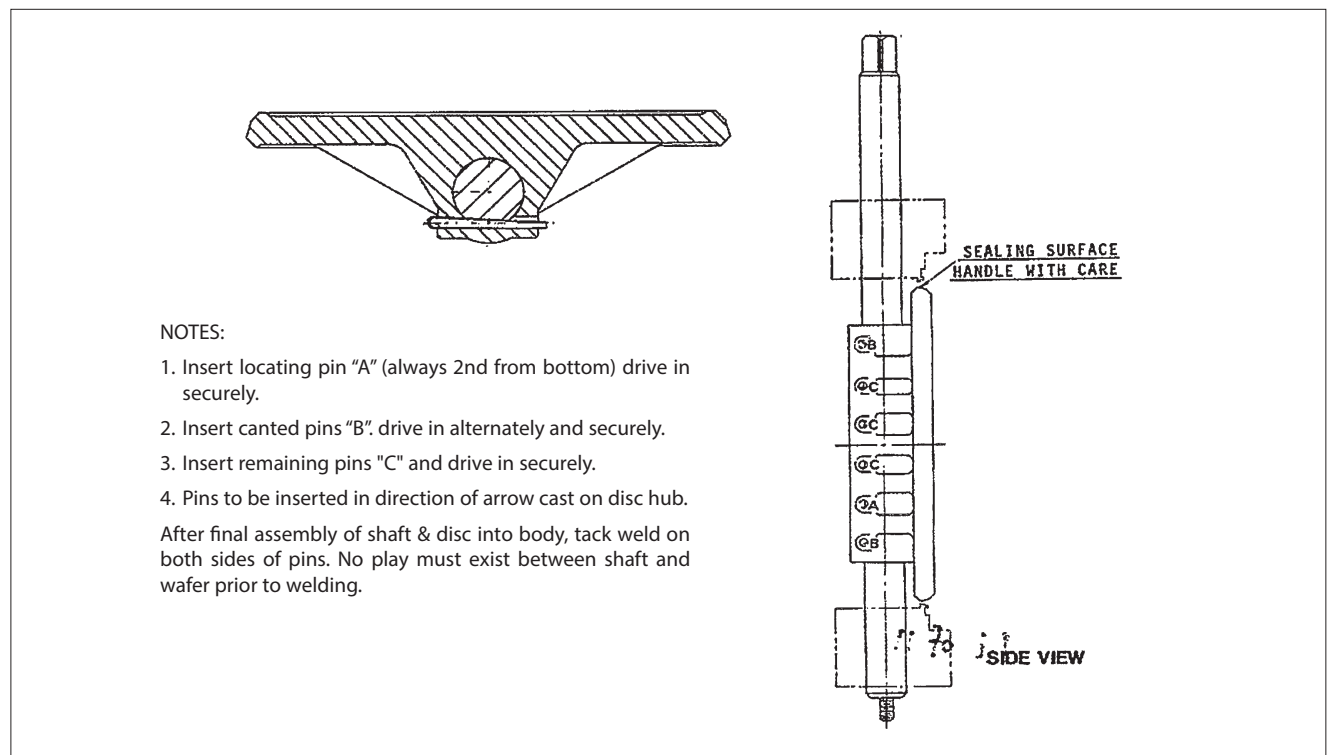

Figure 7.
5. Place the body (1) on a flat surface with the insert facing the assembler. Remove the seat (5) if not already removed.
6. Insert the bearings (6), lubricating the inside diameter with silicone grease or other lubricant compatible with the fluid to be handled. Using a center punch, stake the inboard end of the bearing bores to prevent movement during assembly and service. On 24"-48" valves, stake the outboard end of the lower bearing bores. **NOTE:** this staking will not be required if the original factory staking has not been damaged.
7. Position the disc (3) in the body and slide the shaft (4) through the body and disc. Use caution to prevent damage to the bearings. An arrow on the disc indicates which end of the disc should be located on the bonnet side.
8. Insert the pins (13) and drive them into place according to sequence in Fig. 7. The sequence and direction is very important to avoid alignment error between shaft and disc and be sure that all the pins can be installed. Weld both ends of the pins, small end first. After the disc cools, clean the welds with a wire brush. Welding may be left for the last operation if desired.
9. Slide the spacer (7), shaft seals (B), and compression ring (9) over the shaft (4) at the top of the valve. Slide the compression plate (10) over the shaft and studs (14), then place the two lockwashers (16) and nuts (15) on the studs (14). Do not tighten these nuts down onto the compression plate at this time.
10. Slide the spacer (7), shaft seals (8), and compression ring (32) onto the shaft (4) at the bottom of the valve.
11. Slide one thrust washer (34) onto the threaded stud at the bottom of the shaft. Slide the compression plate (33) over this shaft stud and the two studs (14), making sure that there are two nuts (15) on each stud between the compression plate and the valve body, one with lockwasher (16) to secure the stud to the body, and the other for adjusting the compression plate. Back the seat screws (25) out far enough to prevent them from contacting the compression ring (32).
12. Place the second thrust washer (35) and the two nuts (30) on the shaft stud, tightening the first nut only enough to take up all slack. Tighten the second (jam) nut securely against the first. The compression plate should be free to rotate but must not have any axial freedom on the shaft stud. Check for this.
13. Place the two lockwashers (16) and nuts (15) on the studs (14). Use these two nuts with the two nuts on the other side of the compression plate to adjust the disc upward or downward so that it is centrally spaced in the waterway. Measurements taken from the disc to the valve body at the top and bottom must be identical with one another within .015". Make sure all four nuts are tight.
16. Tighten the set screws (25) at the bottom of the valve and nuts (15) at the top of the valve adequately to prevent shaft seal leakage. They should not be tightened too severely, since this will shorten the life of the seals.